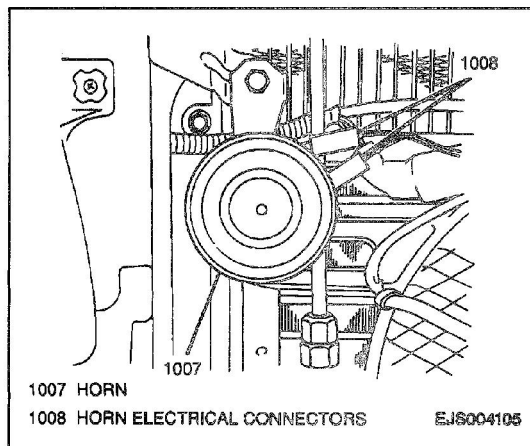

Figure 4—Horn Location
5. Horn electrical connectors (Figure 4).
6. One mounting bolt and horn from vehicle (Figure 4).
2. Horn to vehicle; secure with one mounting bolt (Figure 4).
- 3. Horn electrical connectors (Figure 4).